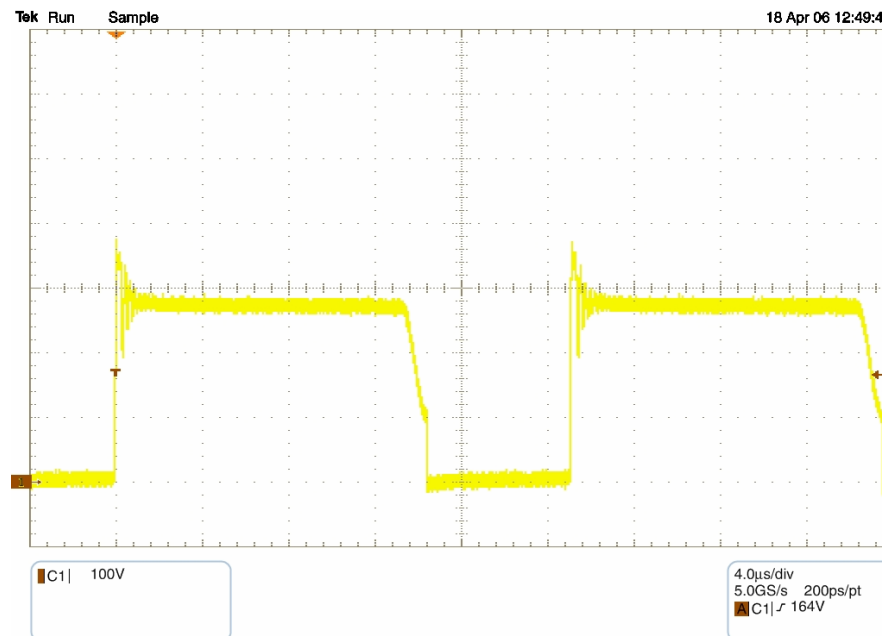

Figure 2: M2 drain waveform when SMPS works under full load (i.e. 6.3A) and 85 VAC input voltage
6. Set the load current to 6.3 A and check the drain voltage waveform. The expected waveform can be seen in Figure 2.